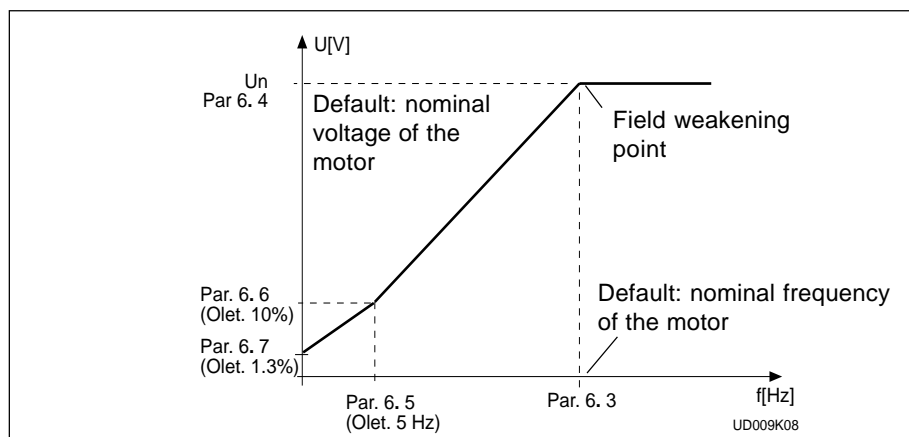

Figure 1.4-3 Programmable U/f curve.
**Programmable U/f curve** The U/f curve can be programmed with three different points. The parameters for programming are explained in Chapter 1.5.2. Programmable U/f curve can be used if the other settings do not satisfy the needs of the application. See figure 1.4-3.